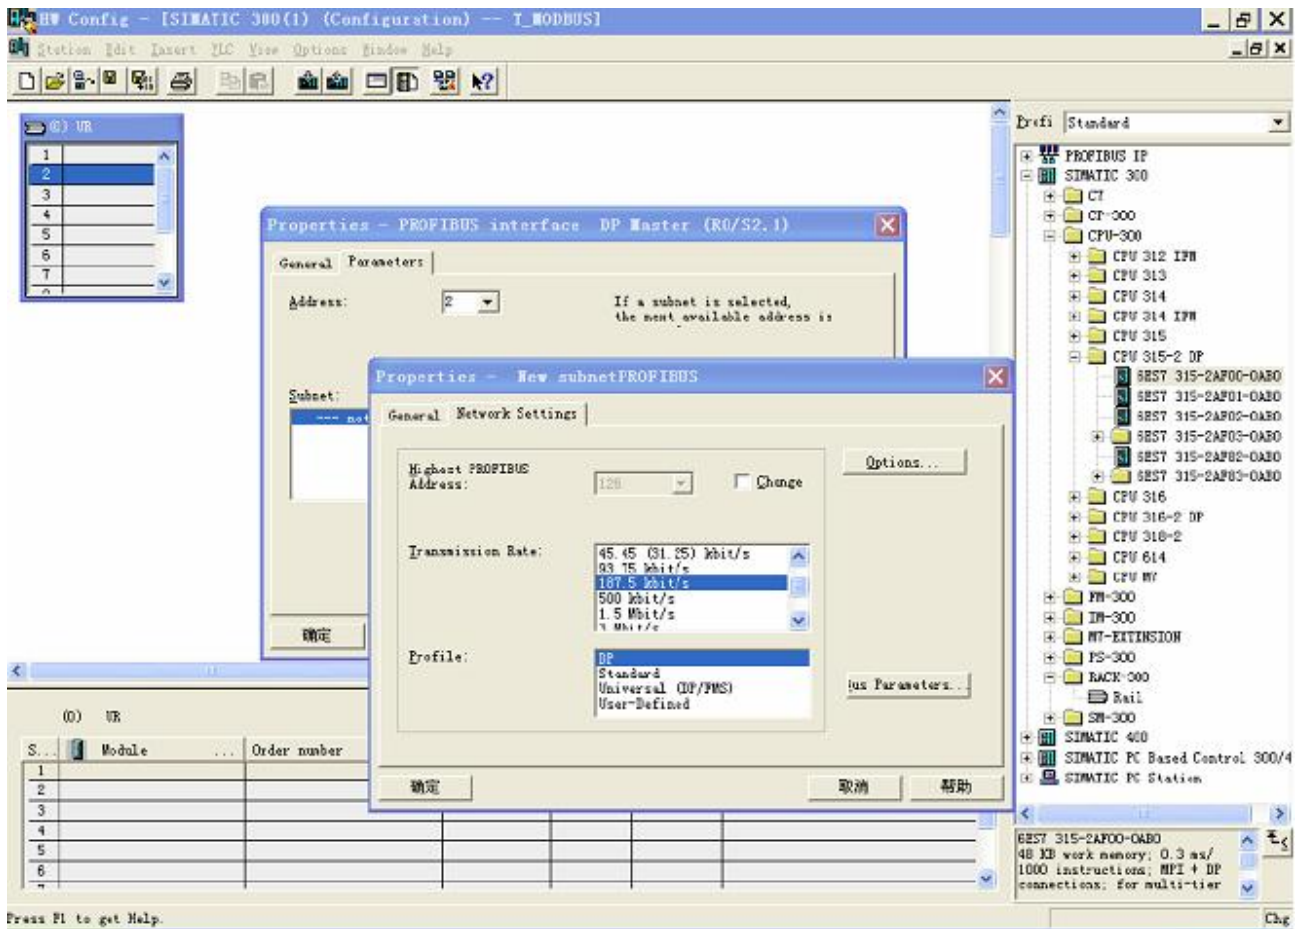

Figure 10
- Create PROFIBUS DP network and set PROFIBUS DP network: Click New and then Network settings, select DP; select a baud rate such as 187.5Kbps, then "OK". Double-click it, Figure 10: